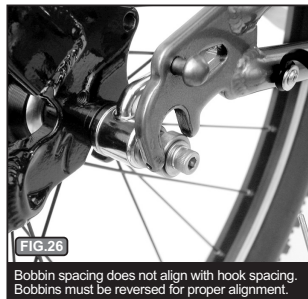

FIG. 26
**B)** With the bike stabilized and the trailer unloaded, check the fit between the fork hooks and the slots of the BOBBINS. It is easiest to do this with the bike in the upright-position and trailer straight behind the bike. Stand on the left side of the bike facing towards the trailer. Allow the bike seat to rest against your hip. Bend at the hips and lift trailer with both hands, Fig. 25, and place the fork hooks on the quick release BOBBINS. If the hooks do not fit into the BOBBIN slots by slightly expanding or compressing the fork, it will be necessary to reverse the BOBBINS. Fig. 26 shows a situation where the hooks do not fit easily and the BOBBINS need to be reversed.